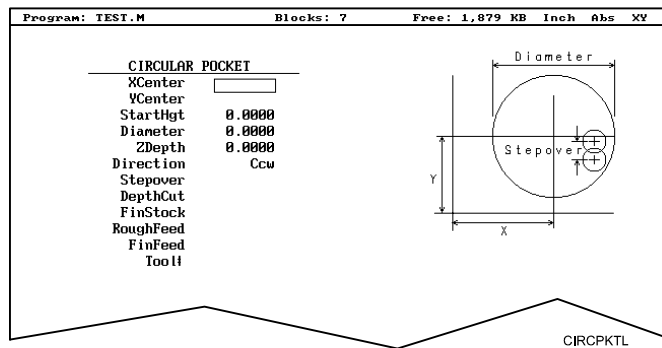

Figure 4-17, CIRCULAR POCKET Graphic Menu
2. Move the highlight to select **Circular** and press **ENTER** to display the **CIRCULAR POCKET** Graphic Menu. Refer to **Figure 4-17**.